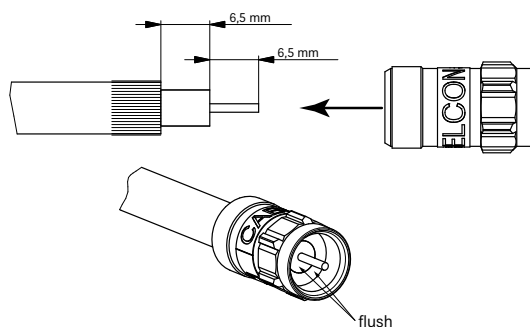

Fig. 4: Plug mounting
2. Mount the supplied F-type plug onto the Kathrein cable types LCD 90, LCD 111A+, LCD 115A+ oder LCD 120A+ montieren and connect to the LNB (see Fig. 4).